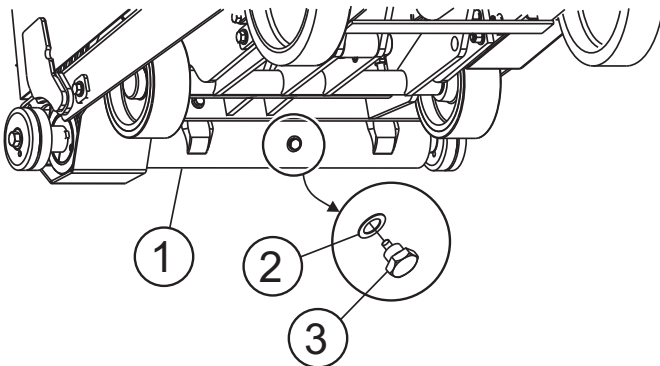

Figure 64. Hydraulic System Drains
1. Place an oil drain pan beneath the blade shaft housing (Figure 64, item 1).
2. Remove the drain plug (item 3) from the bottom of the blade shaft housing.